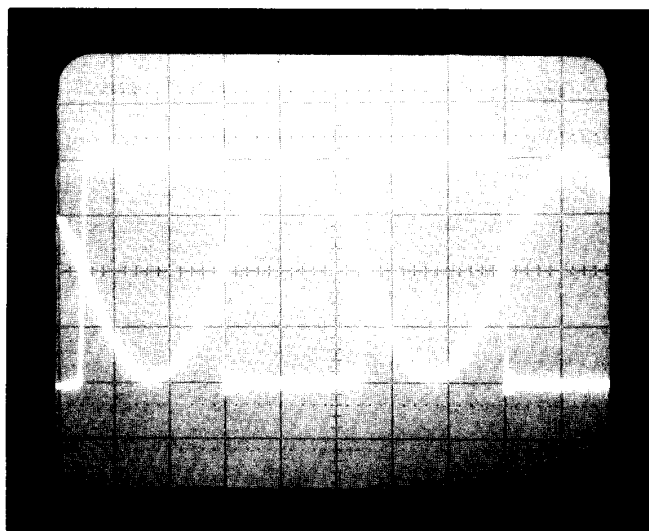

Figure 5-37. Zero Crossings Aligned for 180-Degree Difference Between Traces
- f. Adjust A9L13 (pot core, underneath TP9) for a 180-degree difference between oscilloscope traces, as shown in Figure 5-37.
- k. Return attenuator to 10 dB. If there is not a 180-degree difference between sine and square wave, as shown in Figure 5-37, repeat steps f through j.